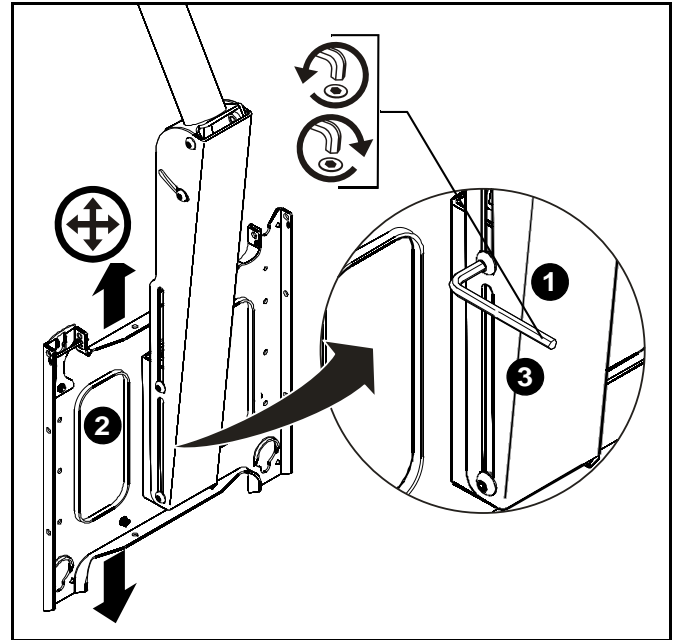

Figure 7
1. Loosen four 5/16-18 button head cap screws using 3/16" hex wrench (C). (See Figure 7)
2. Adjust faceplate to desired position. (See Figure 7)
3. Tighten four 5/16-18 button head cap screws using 3/16" hex wrench (C). (See Figure 7)